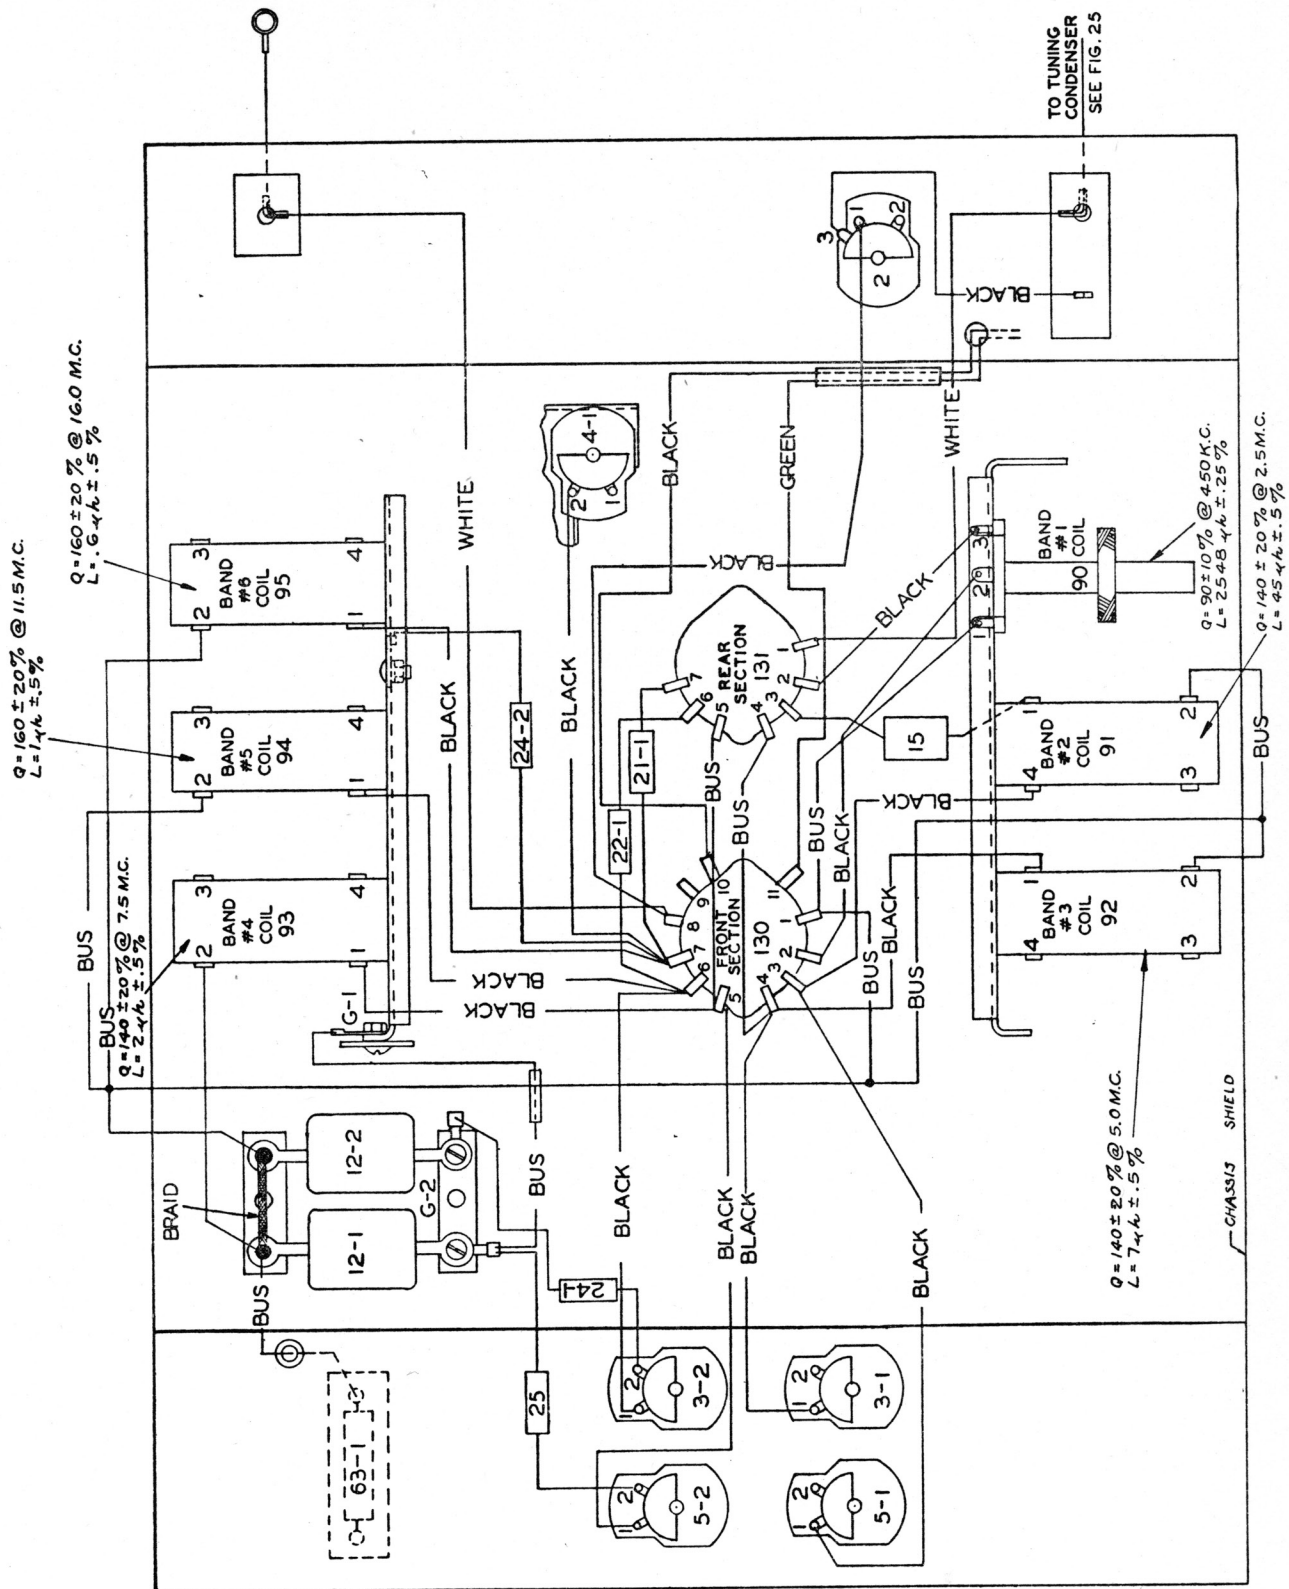

FIGURE 26—RADIO RECEIVER BC-348-H:
NOTE #1: FOR TUBE SHELF WIRING REFER TO FIGURE 26
**NOTE #1:** FOR TUBE SHELF WIRING REFER TO FIGURE 26